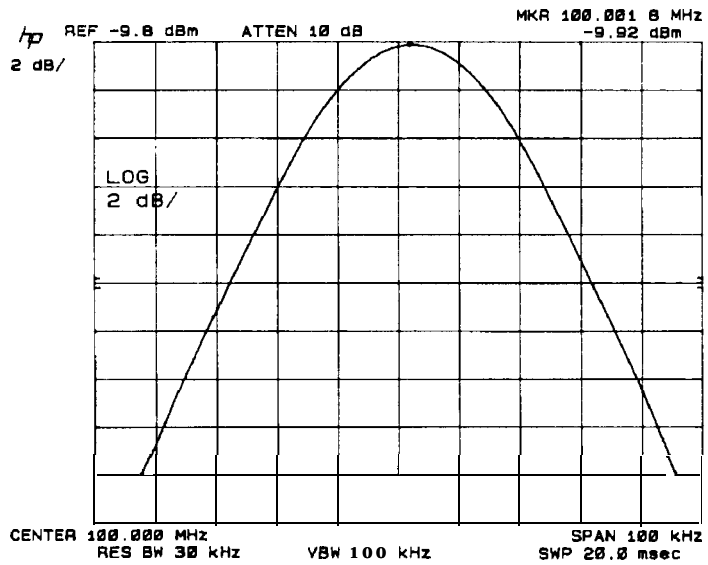

Figure 2-20. Log Scale Switching Uncertainty Measurement
6. Step up through the log scales with **↑**. At each step, press MARKER **PEAK SEARCH**, then record the marker amplitude in Table 2-15. Refer to Figure 2-20.